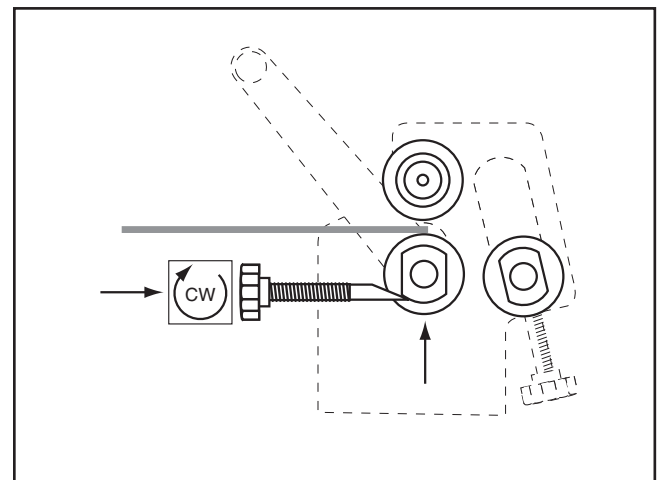

Figure 15. Raising bottom roller for flat rolling.
1. Place the workpiece between the top and bottom rollers, as shown in **Figure 15**. Turn the thickness adjust knobs to lift the bottom roller until the workpiece is held snug between the top and bottom rollers. Be sure to turn the thickness adjust knobs equal amounts.